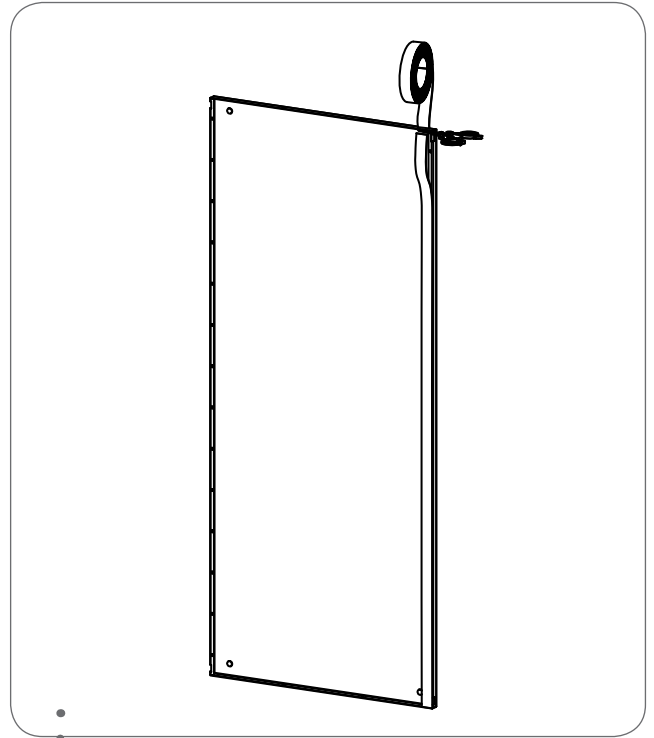

Fig 9.2. Sealing long sides of back plate for F-serie cell centre with sealing strip (50020040 Joint sealing strip 0.8*20 mm).
Sealing strips (2) shall be glued to the long sides of the back plates (1) as shown in Fig. 9.2.